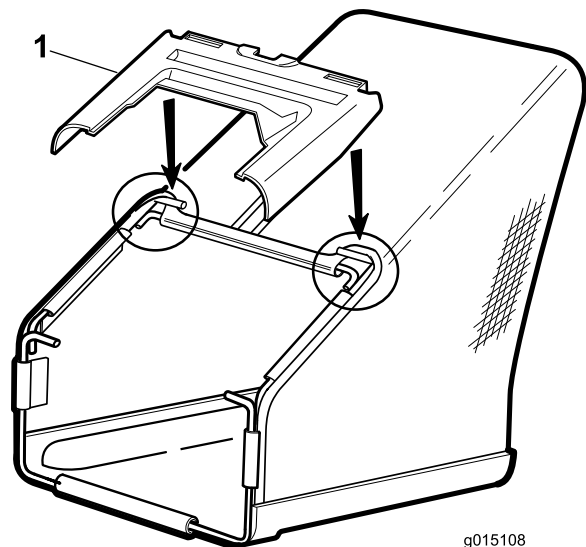

Figure 5
3. Install the plastic cover onto the bag frame as shown in Figure 5.